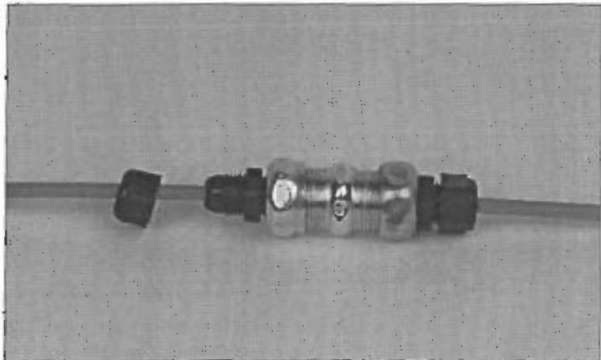

FIGURE 100
10. Tighten strain relief into compression union. See Figure 100.